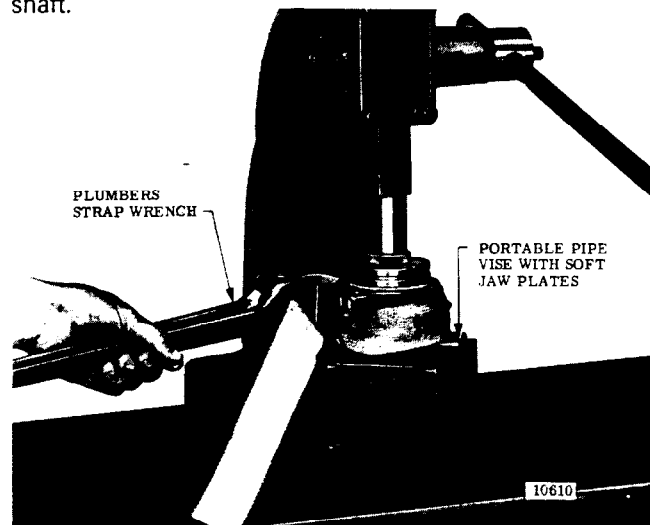

Figure 5-10. Winding Load Brake Gear using Strap Wrench to set up Brake Spring.
(4) The brake spring must be pre-loaded at assembly to a torque of from 10 to 14 lb-ft. This is accomplished using a plumber's strap wrench to wind (rotate) load brake gear to set up spring (Fig. 5-10) while pressing brake flange into place using an arbor press. Clamp pinion end of shaft into a portable vise to keep brake from rotating in press. Use brass or copper jaw plates on vise to protect pinion gear teeth. Wind gear counter-clockwise (viewing brake from flange end) with strap wrench and press down on flange until snap ring groove in shaft is exposed allowing snap ring to be installed. Use extreme care not to over wind spring as yield will result and final spring torque will be reduced. Do not wind gear beyond point necessary to install snap ring in groove.